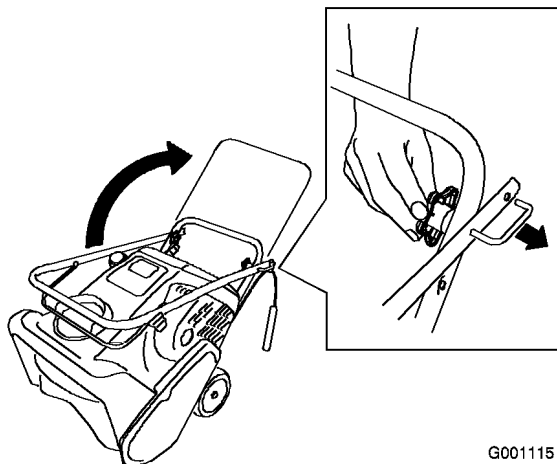

Figure 3
2. Position the upper handle as shown (Figure 3).